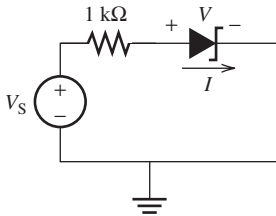

FIGURE P8.23 Circuit for Problem 8.23.
- 8.23** (A) For the circuit shown in Figure P8.23 the Zener diode has $V_Z = 6.8$ V. Find I and V when: